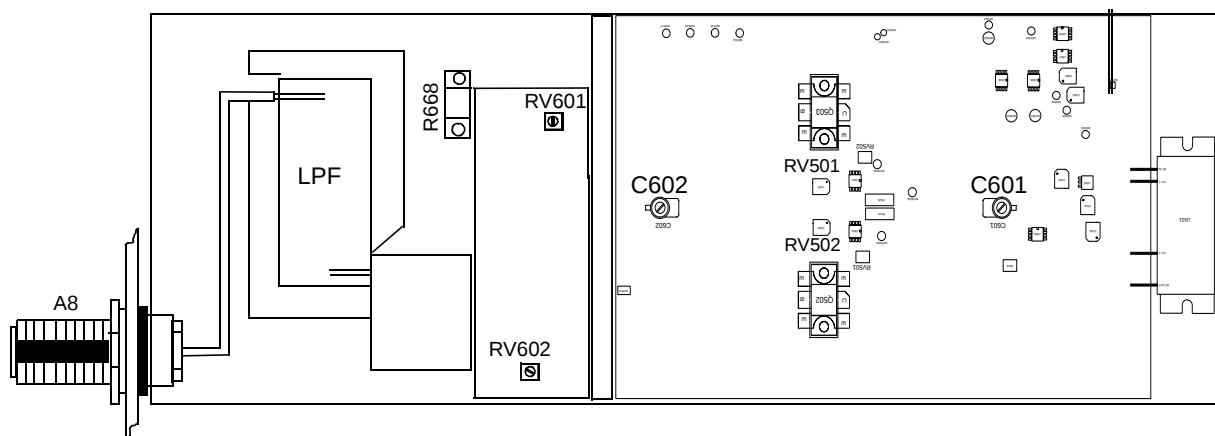

Figure 7-3 110W POWER AMPLIFIER ALIGNMENT POINTS
Refer to Figures 7-3 and 7-4 for component locations. Refer to Figure 7-8 for equipment needed and setup diagram. Select “PA” from the “TEST” menu in the Repeater Software.
1. Set RV501 on the PA fully counterclockwise. Set RV502 on the PA fully clockwise, see Figure 7-3.
2. Set Forward Power Adjust RV601 and Reflected Power Adjust RV602 on the power detector board fully counterclockwise (see Figure 7-3).
7. Monitor the output power and tune C601 and C602 for maximum output power (see Figure 7-3).